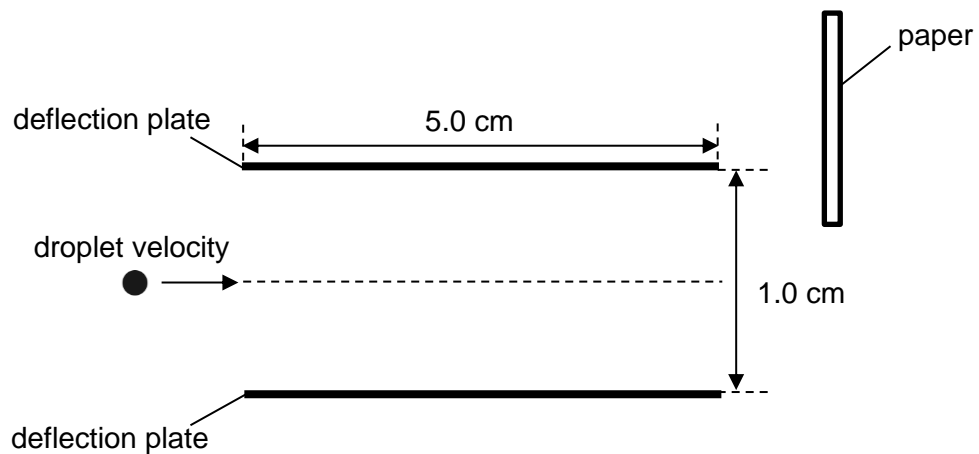

Fig. 8.4 (not to scale)
- (b)** Fig. 8.4 shows the deflection plates of the CIJ printer. Droplet A, with a charge of $-1.0 \times 10^{-13} \text{ C}$, enters at the midpoint between the plates at 20 m s^{-1} and is to be deflected upwards towards the piece of paper.
- (i)** Draw the electric field lines between the deflection plates on Fig. 8.4. [1]